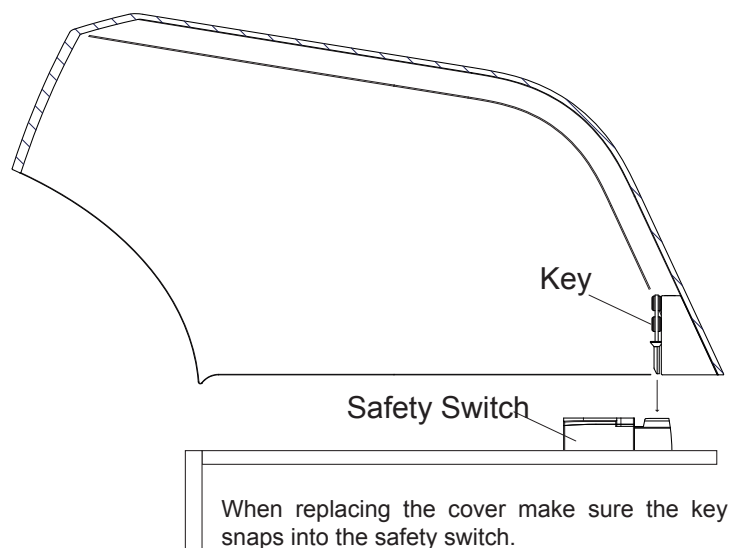

Figure 9 - Lid Cover
6. Replace cover and screws. (See Figure 9) *NOTE: When replacing the cover make sure that the key snaps into place over the safety switch.*